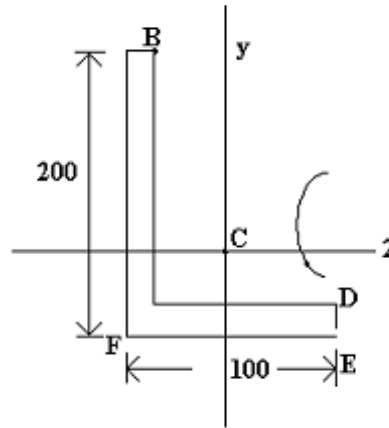

Figure 1
1. Using the general equation for elastic bending stress find the stresses at points B and F for the angle section shown in figure 1 . The applied moment is  $M_z = 10$  kNm